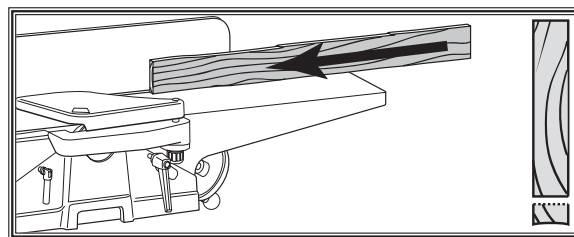

Figure 32. Edge joint on the jointer.
3. **Edge Joint On The Jointer:** The concave edge of the workpiece is jointed flat with the jointer (Figure 32).